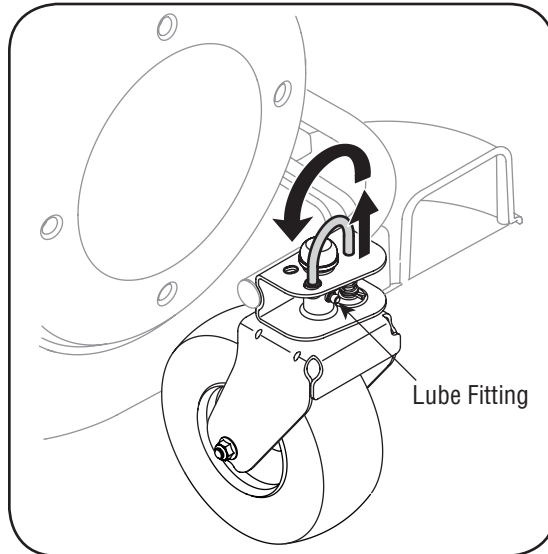

Figure 5-2
NOTE: If unit is equipped with the front caster wheel, use the grease fitting on either side of the wheel to lubricate the wheel. There is also a lube fitting on the front of the caster hub for lubing the caster. Refer to Figure 5-2.
- Lift and place lock pins in larger holes to lock wheels. Place pins in smaller holes to allow casters to rotate freely for turning. See Figure 5-2.